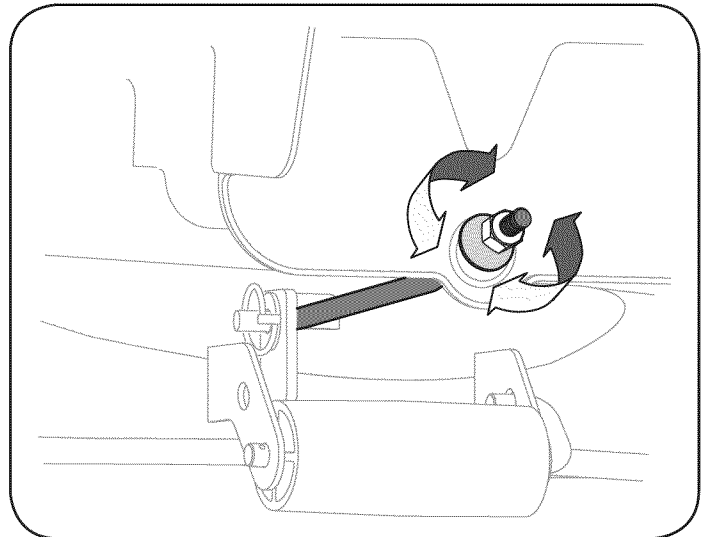

Figure 22
1. Locate the hex lock nut on the end of the deck hanger rod. See Figure 22.
- To *lower* the front of the deck, loosen (thread outward) the hex nut away from the front hanger bracket. See Figure 22.